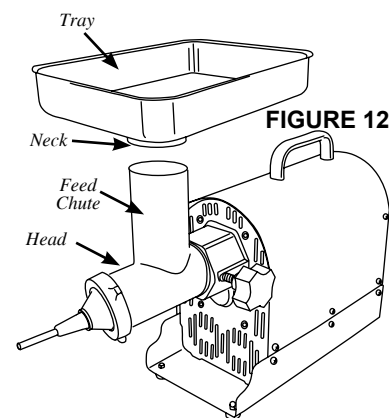

FIGURE 12
7. Insert the neck of the **Tray** into the **Feed Chute** (Figure 12).